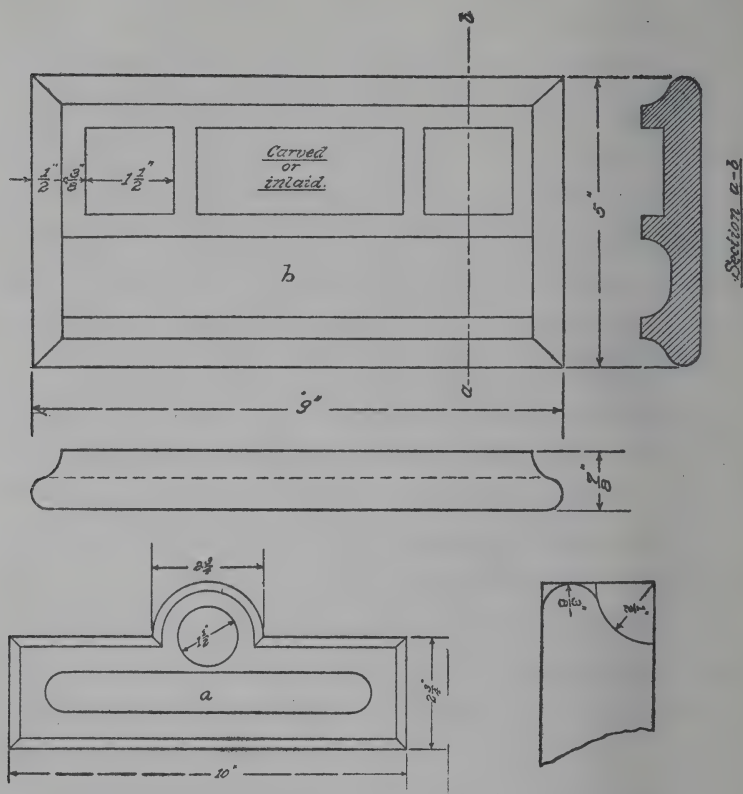

Fig. 158. Pen and ink trays
A more pretentious project was tried next (Fig. 158, *a*), which provides for a round ink bottle, and demands some nice chisel work. In the first pen tray the bevels had been all planed. On this second one, only three could be cut that way, as the one on the back had to be chiselled. The successive steps in the construction were as follows:
- Design No. 3, shown at *b* (Fig. 158), called for